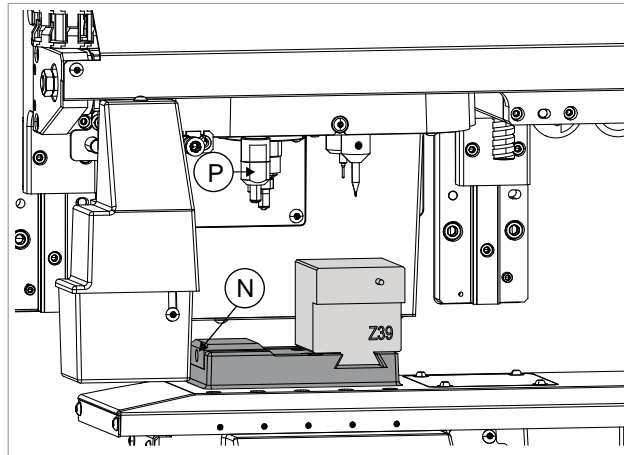

Fig. 61
- 1) Loosen the grub screw (N) Fig. 61 and remove the existing clamp.
- 2) Insert Z39 template into the dovetail. (Fig. 61)
- 3) Tighten the grub screw (N).